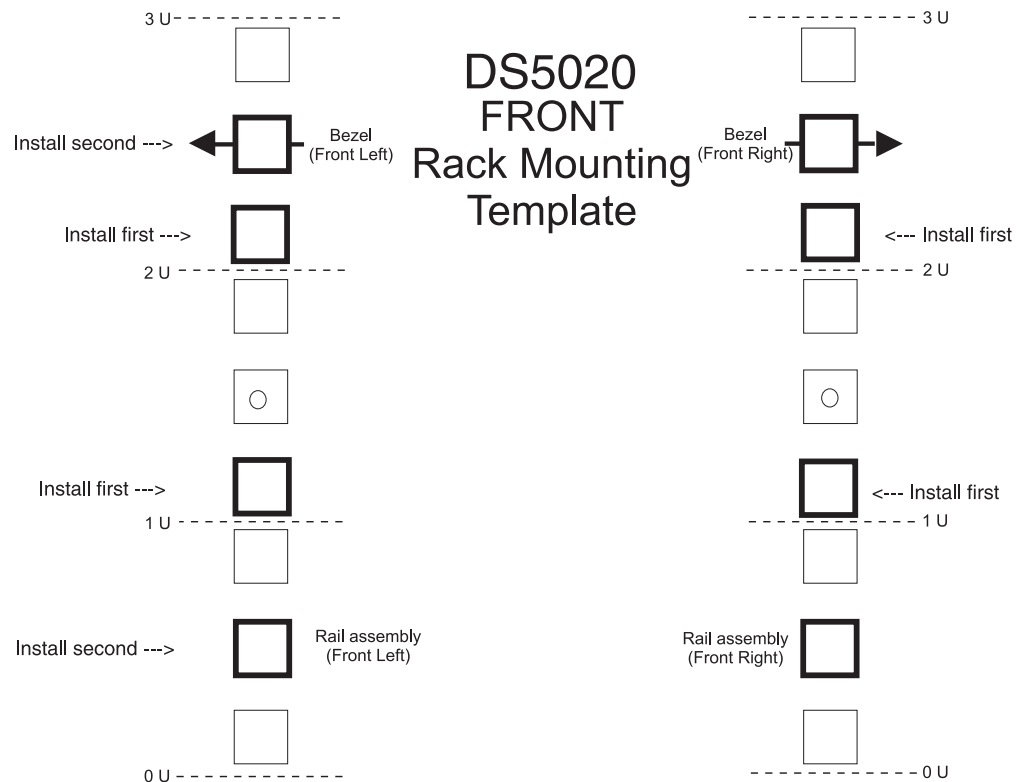
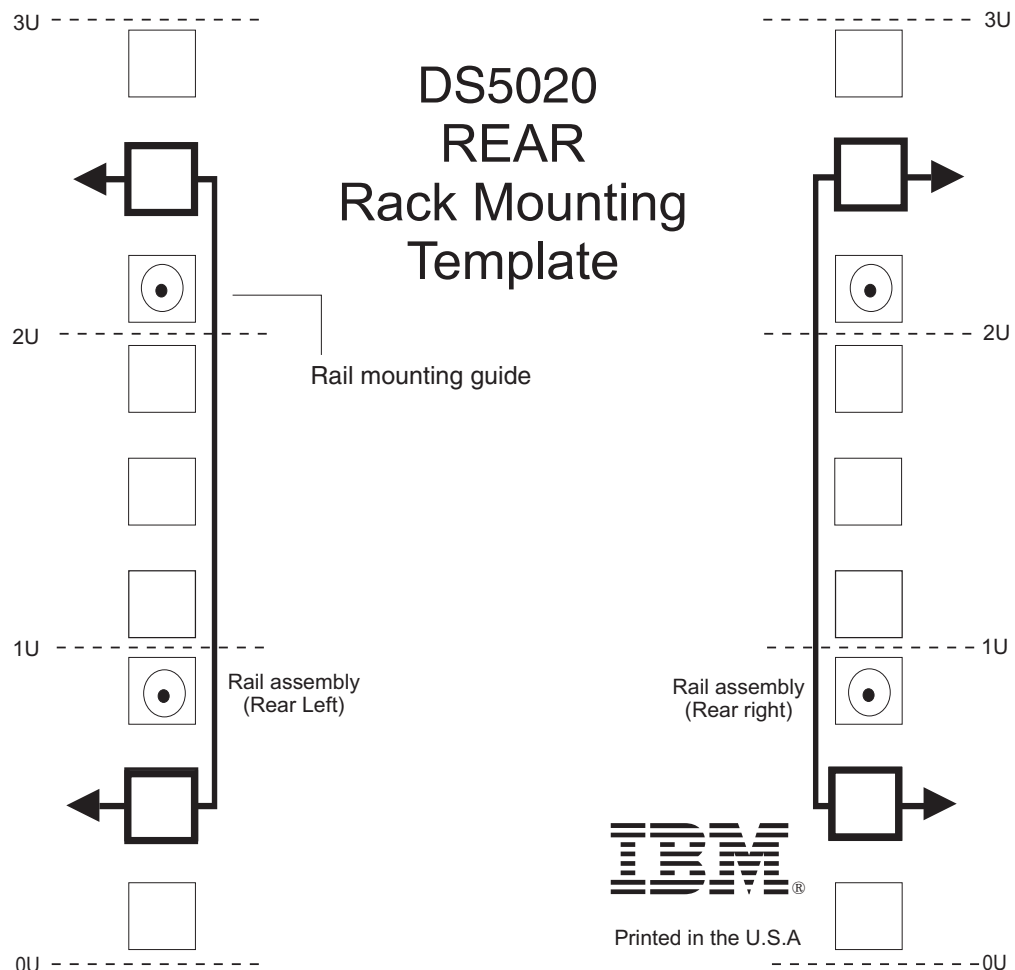

Figure 13. Front rack mounting template
Figure 14. Rear rack mounting template
Use the following templates (Figure 13 and Figure 14 on page 34) to identify the proper locations for inserting M5 screws when mounting the support rails and DS5020 storage subsystem to a rack cabinet. The locations for the M5 screws are highlighted in the templates.
**Important:** Duplicate copies of the rack mounting templates are provided in Appendix B, “Rack mounting templates,” on page 167. If you want to tear out the templates from this document, use the copies in Appendix B, “Rack mounting templates,” on page 167. Use the preceding templates (Figure 13 on page 33 and Figure 14 on page 34) to identify the proper locations for inserting M5 screws when mounting the support rails and DS5020 storage subsystem to a rack cabinet. The locations for the M5 screws are highlighted in the templates.
- The lip on the rail lines up with the bottom of the storage subsystem (the 0U boundary in Figure 14 on page 34).
**Note:** Be sure to install the screw labeled *install first* in Figure 13 on page 33.